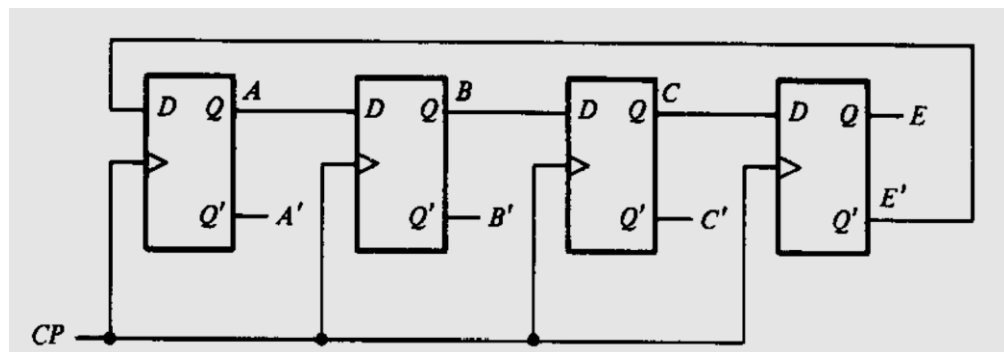

Figure 11.3 4-bit Johnson counter
- Fig. 11.3 shows a 4-bit Johnson counter